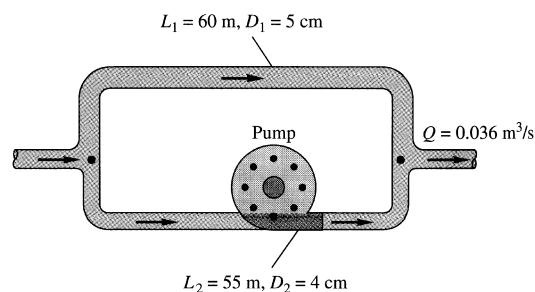

Fig. P6.113
6.113 The parallel galvanized-iron pipe system of Fig. P6.113 delivers water at 20°C with a total flow rate of $0.036 \text{ m}^3/\text{s}$. If the pump is wide open and not running, with a loss coefficient $K = 1.5$, determine (a) the flow rate in each pipe and (b) the overall pressure drop.